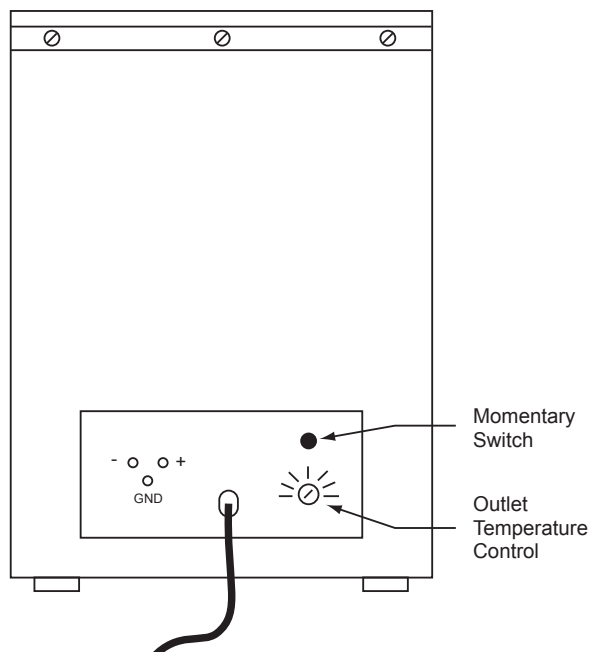

Figure 5-1
1. The temperature of the heated exit ports is achieved with a separate control unit mounted on the rear of the GC (Fig. 5-1). Included in the temperature control unit are: